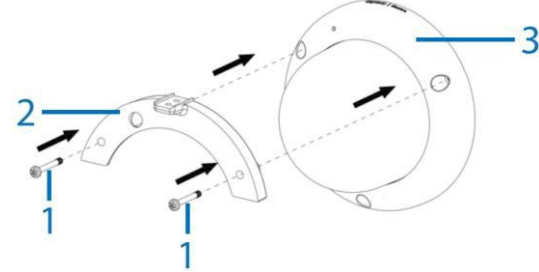

Figure 11
2. Hold the bracket (2) (Figure 11) up to the camera dome cover (3) (Figure 11) and align the two holes on the bracket with the two holes on the camera dome.
3. Insert the two new screws (1) (Figure 11) fully into the two-holes on the bracket and camera dome cover.